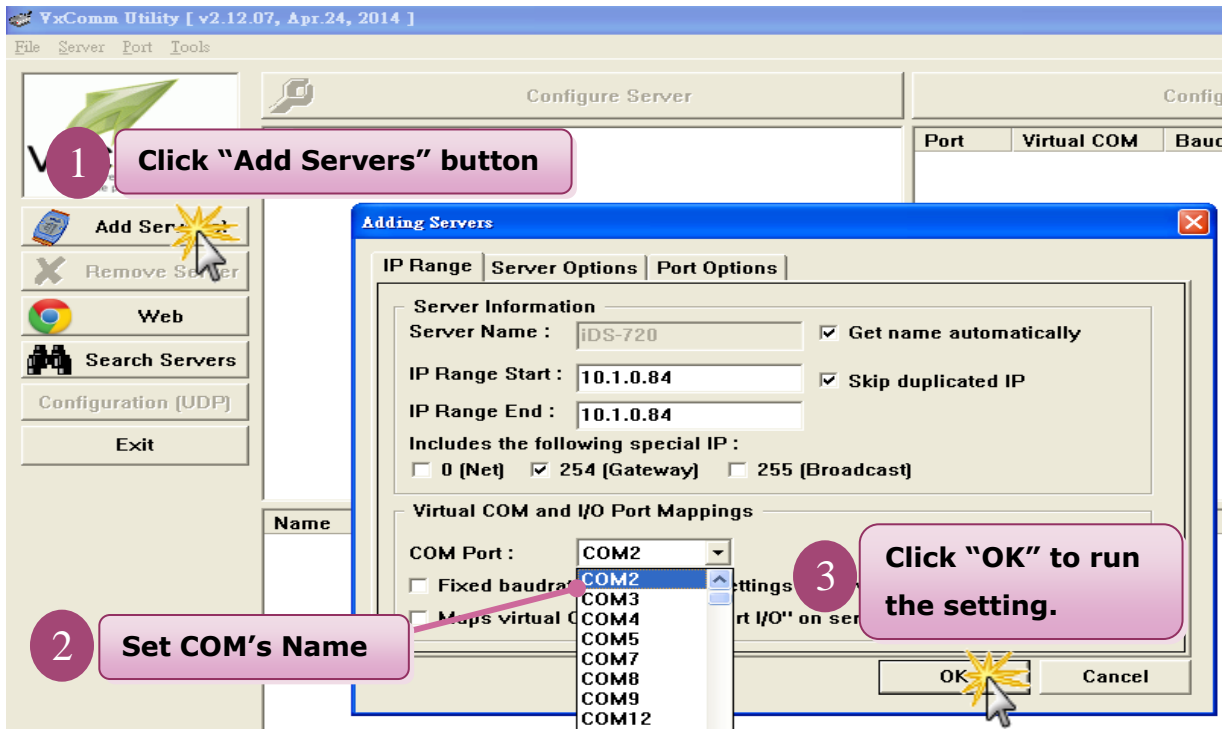

Fig 4-3
2. Click the **“Add Server[s]”** button to connect to the iDS-700, then user assign a COM Port number and click **“OK”** to save your settings, please refer to Fig 4-3.